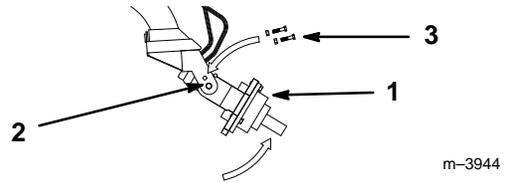

Figure 2
2. Manually rotate the auger drive head up, until you can install two bolts into the holes on both sides of the cradle arms, securing the drive head. Secure each bolt with a nut (Fig. 2).